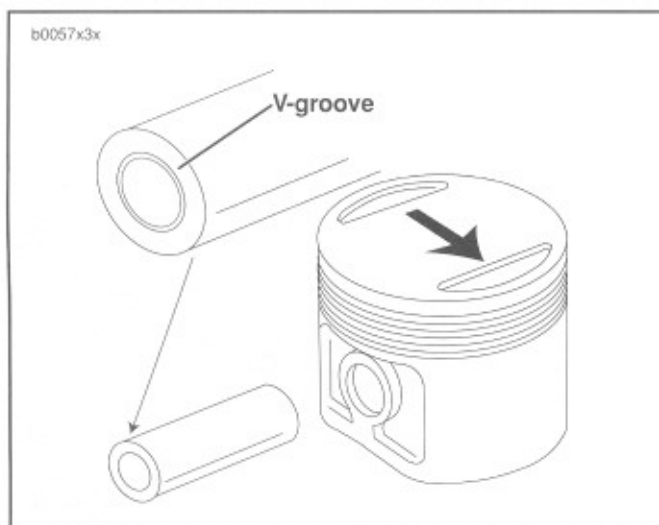

Figure 3-27. Piston Pin and Piston Identification
Since the piston pin is a loose fit in the piston, the pin will easily slide out. The pins have tapered ends to help seat the round retaining rings. See Figure 3-27. 1200cc piston pins are stamped with a V-groove at one end.
9. Mark each pin boss with either an “F” or an “R” to indicate front or rear cylinder, respectively. See Figure 3-27. The arrow at the top of 883cc and 1200cc pistons must always point toward the front of the engine.